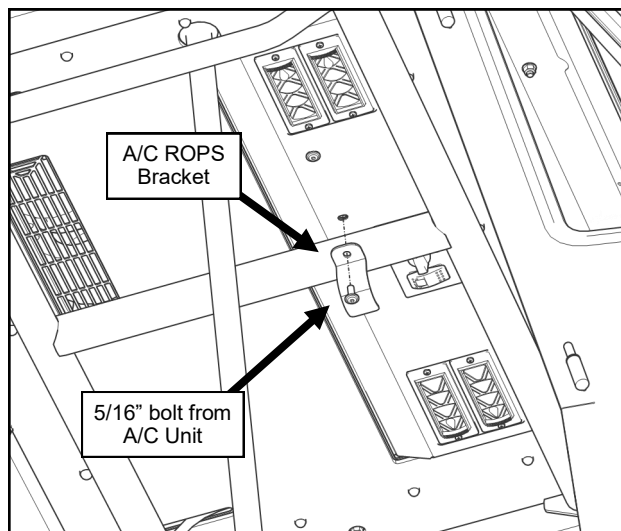

Fig. 5.3 (A/C ROPS Bracket)
- 5.3** Inside the cab, remove the bolt closest to the front, center of the A/C assembly and use it to install a ROPS bracket to the underside of the vehicle ROPS. See Figure 5.3.